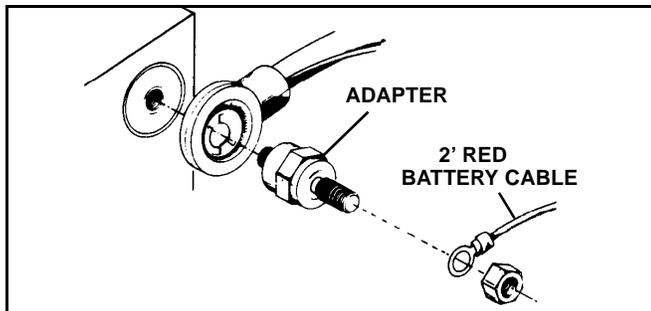

Figure 1-3
*NOTE: An adapter is recommended for vehicles with a side post battery. (See Figure 1-3) (Adapters can be purchased from your Sno-Way dealer, Part #96100773.)*